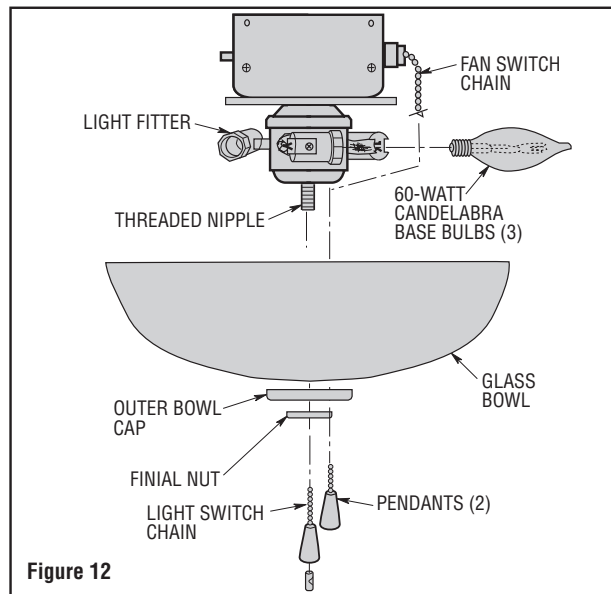

Figure 12
21. Remove the finial nut and outer bowl cap from the light fitter (Figure 12).
22. Pass the fan switch chain through the bushing in the bowl cap (Figure 12).
23. Position the glass bowl over the threaded nipple. Slide the outer bowl cap onto the threaded nipple and gently tighten the finial nut to secure the glass bowl. Pass the fan pull chain through the bushing in the outer bowl cap and install the cap on the threaded nipple. Install finial nut finger tight (Figure 12).